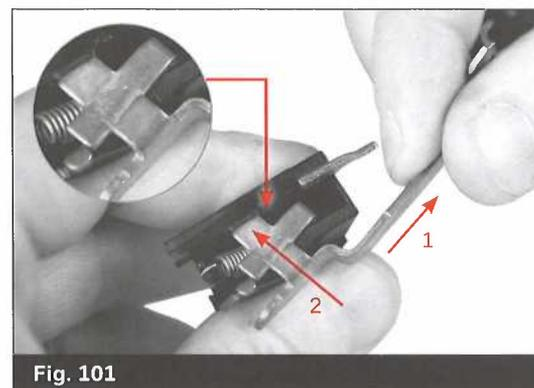

Fig. 101
- Reinstall the trigger bar and ensure the left arm of the cruciform goes on top of the drop safety ledge of the trigger mechanism housing. (Fig. 101)